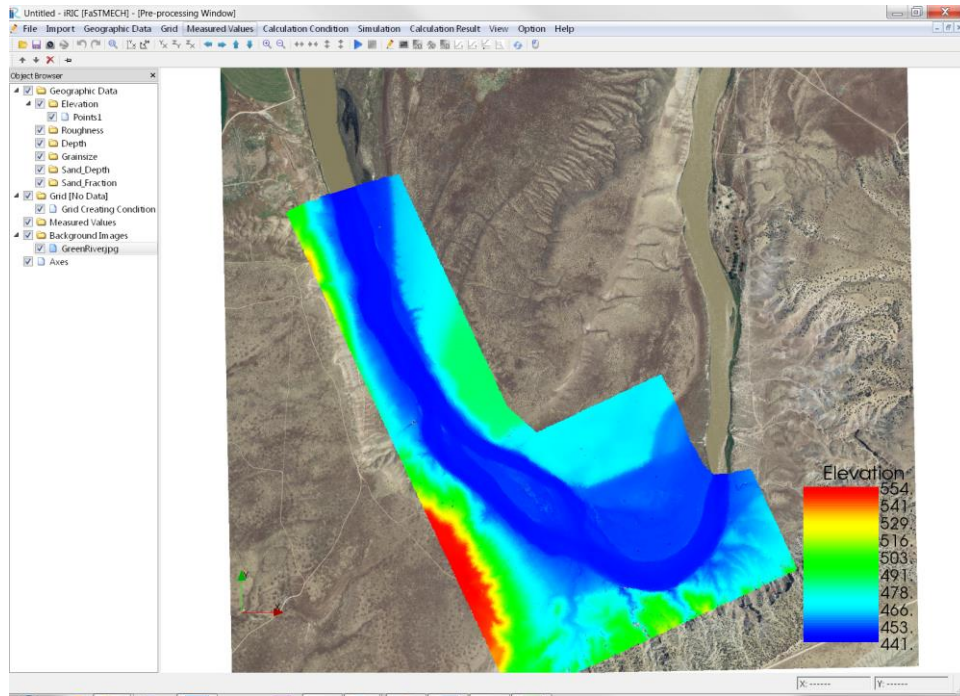

Figure 4. Addition of the background imagery.
- Import an image to place in the background of the data. Background images can be imported through the **Menu Bar** by selecting **Import ► Geographic Data ► Background Image**. In the Open Image dialog select the *Green River.jpg* file.. The image will be displayed in the canvas (Figure 4). To turn the image off, uncheck **Background Images** in the **Object Browser**.